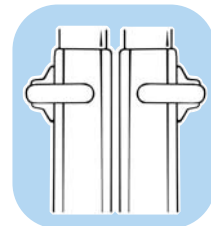

Figure B-1 Lock Assemblies
B. The second mechanical component of the ladder is the LOCK ASSEMBLY. There are four of these on each ladder. These permit you to change the height of the ladder (See figure B-1).